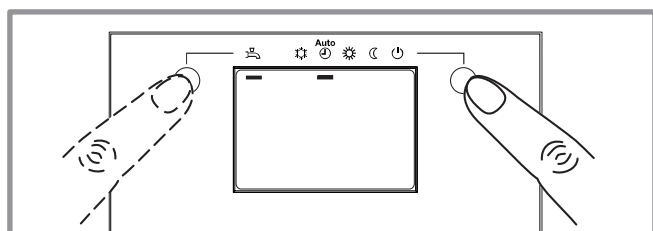

figure 6 - Selecting the heating mode AUTO and Select the DHW mode
- Select the "AUTO" heating mode (figure 6).
- Select the DHW mode (figure 6).